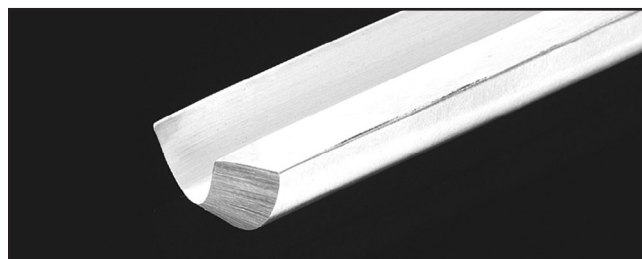

Figure 16. Gouge.
- **Gouges**—Mainly used for rough cutting, detail cutting, and cove profiles. The rough gouge is a hollow, double-ground tool with a round nose, and the detail gouge is a hollow, double-ground tool with either a round or pointed nose. **Figure 16** shows an example of a gouge.